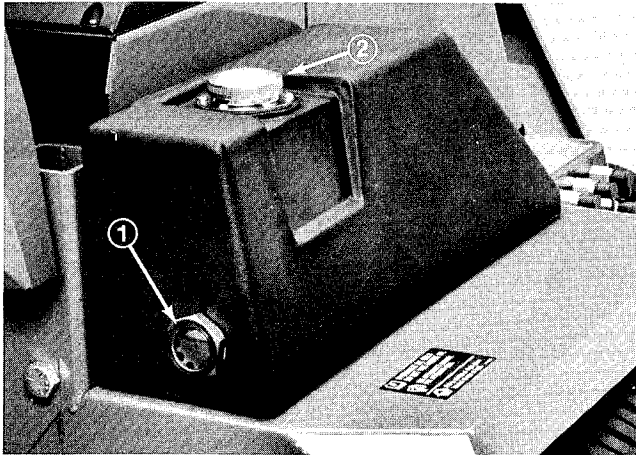

Figure 46
1. Visually check hydraulic oil level daily through sight glass (Fig. 46). With machine on a level surface, oil should be in the middle of the sight glass when warm and slightly below level when cold.
2. If oil needs to be added, clean area thoroughly around the fill cap before removing cap (Fig. 46). Add oil until proper level is indicated in sight glass.
3. With machine on level surface, fill reservoir with hydraulic oil until oil level is midway up in sight glass (Fig. 46).